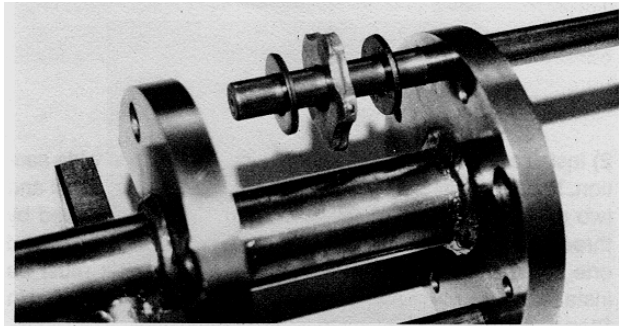

FIGURE 17
1) Install a spacer washer next to the outside side plate of the narrow section. Next, install a flail. Follow with a spacer washer and continue the sequence until the section is full. FIGURE 17.